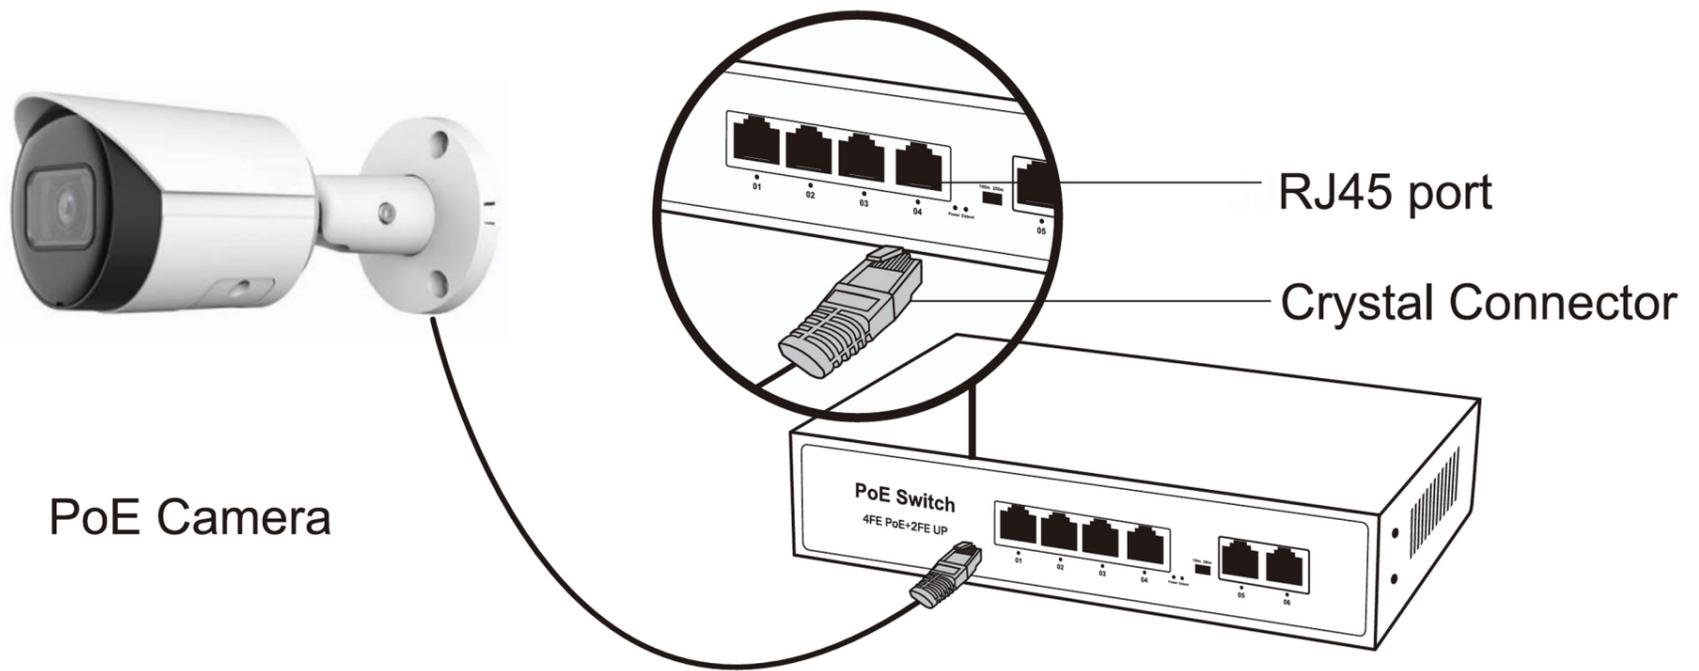

Figure 1-1 RJ45 port connection diagram of POE switch
- Connect one end of the network cable to the other end of the switch. The corresponding device is shown in Figure 1-1.